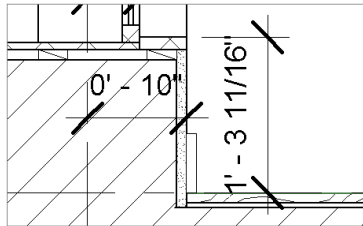

FIGURE 11.24 Dimensioning the window sill
9. Add a dimension locating the window sill relative to the floor, as shown in Figure 11.24.